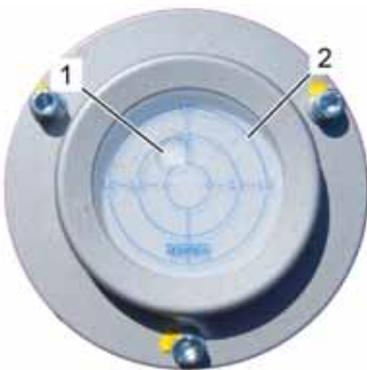

Fig. 62: Circular level
7. ➔ Put the chassis in a horizontal position by aligning the outriggers according to the circular level (Fig. 62)(Item no. 4001/0298). The bubble (Fig. 62/1) of the circular level must be within the 1° circle (Fig. 62/2).
7. ➤ Check the orientation with the circular level (Fig. 62) (item no. 4001/0280). The bubble (Fig. 62/1) of the circular level must be within the 1° circle (Fig. 62/2).